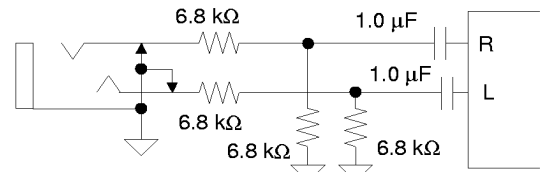

Figure 4. Line Inputs
The analog input mixer is designed to accommodate five stereo inputs and one mono input. These inputs are: a stereo line-level input (LINE), a mono microphone input (MIC), a stereo CD-ROM input (CD), a stereo auxiliary line-level input (AUX), and the PCM output from the DACs. Each of the stereo inputs has separate volume controls for each channel and one mute control for each left/right pair. The mono microphone input has one mute and one volume control. All analog inputs to the CS4299, including CD_GND, should be capacitively coupled to the input pins. Since many analog levels can be as large as $2 V_{RMS}$, the circuit shown in Figure 4 can be used to attenuate the analog input by 6 dB (to $1 V_{RMS}$) which is the maximum voltage allowed for all the stereo line-level inputs.